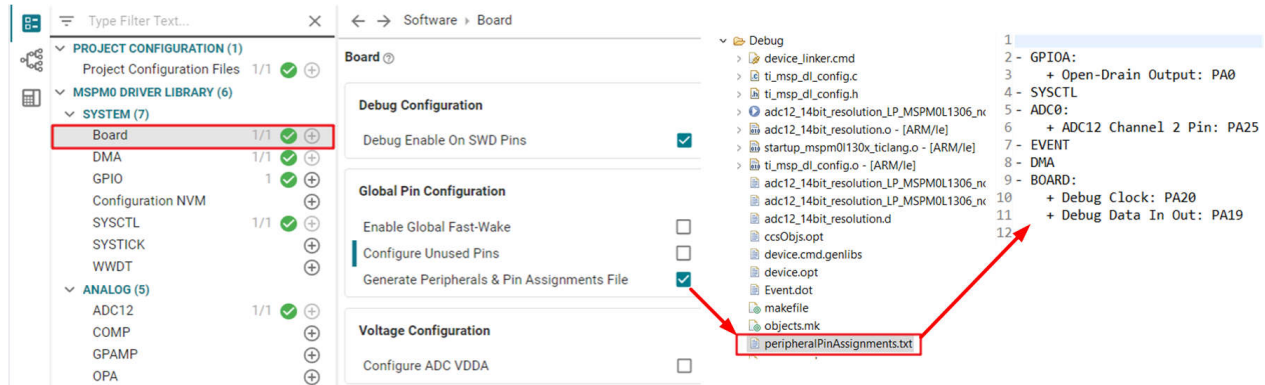

Figure 3-12. Board View
- Generate Peripherals and Pin Assignments File: After enabling, a peripherals and pin assignments file is generated in the *Debug* folder, as shown in Figure 3-12.